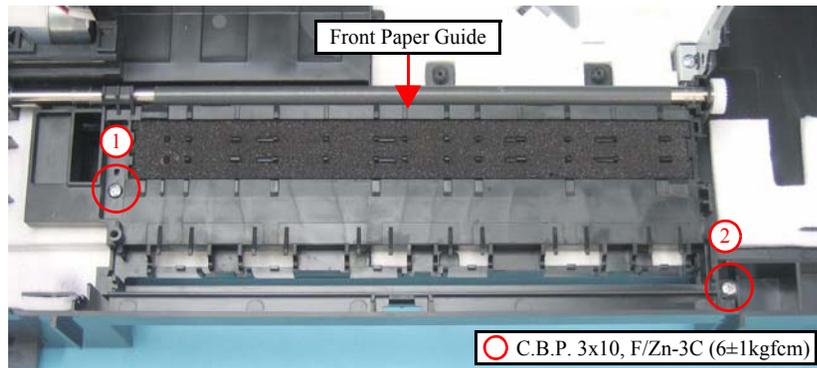

Figure 4-82. Removing Front Paper Guide (1)
- Tighten the screws in the order given in Figure 4-82.